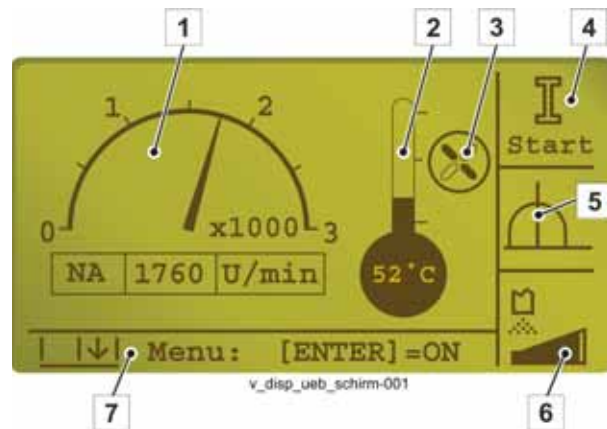

Fig. 79
A short acoustic signal confirms the release and field (4) (Fig. 79) shows this symbol.
Field (5) on the display (Fig. 79) shows this symbol.
While the "Pumping piston change" operating mode is active, the following symbols can be displayed in field (4) on the start screen (**Fig. 79**).